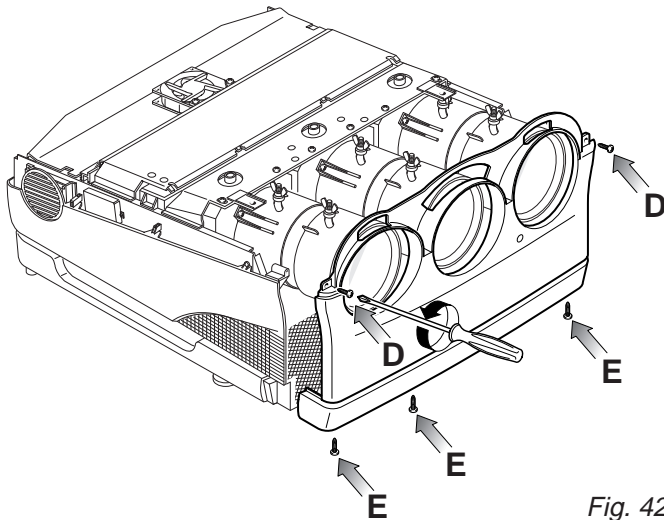

Fig. 42
Unscrew the two screws (D) on the left and right of the front panel. Unscrew the three screws (E) on the bottom and take the panel off. The position of the screws is shown by the arrows in Fig. 42.